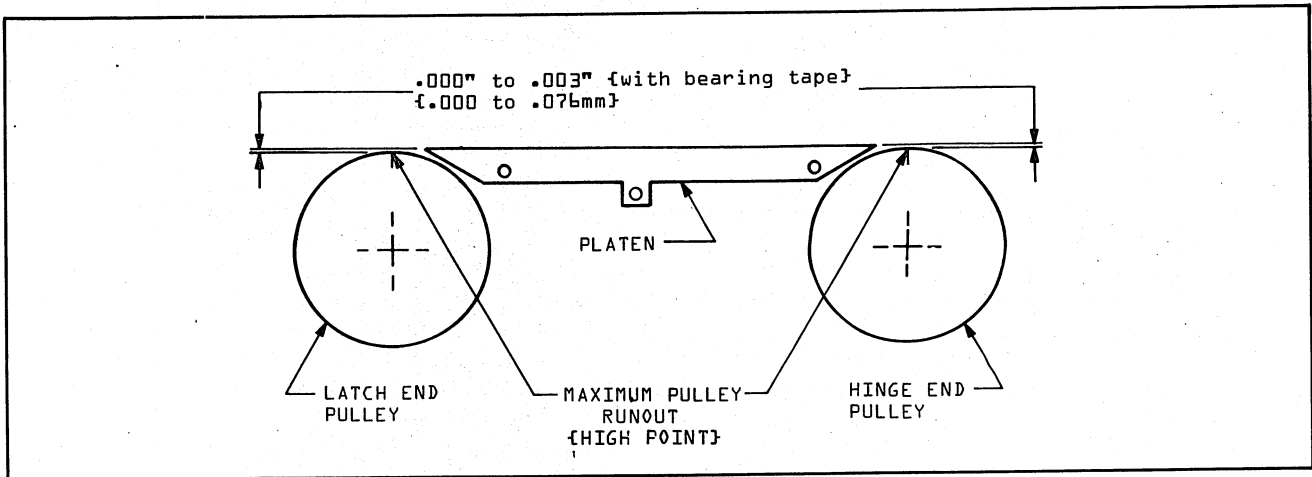

FIGURE 5-1. PLATEN TO DRIVE PULLEY ALIGNMENT
6. Place a straight edge along the crown of the platen so that it extends over both pulleys. This can be done to one end of the platen at a time if a long enough straight edge 17 inches long and .070" thick (430 x 1.6mm) is not available. Set pulley high points as shown in Figure 5-1.